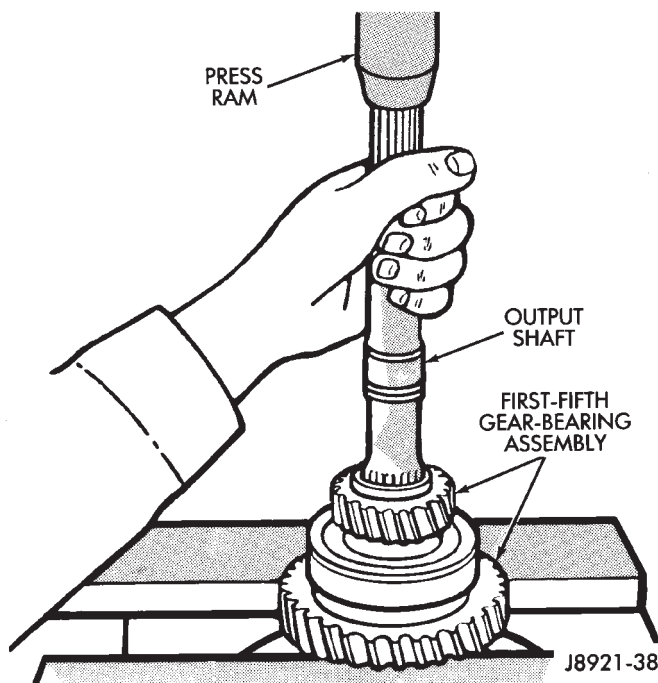

Fig. 114 Remove Fifth Gear, First Gear Bearing, And Thrust Washer
(4) Using Bearing Splitter P-334 or suitable press plates positioned under first gear, press fifth gear, rear bearing, first gear, and first gear thrust washer off output shaft (Fig. 114).